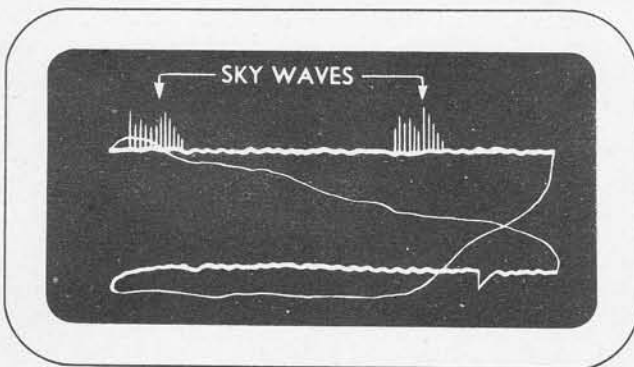

Figure 3-36. Sky Wave Signals — Position "1"
(1) During operation with sky waves only, it is extremely important that the operator matches the first sky waves preceding each train of sky waves. Figure 3-36 illustrates sky wave trains as they appear with "FUNCTION" switch at position 1.